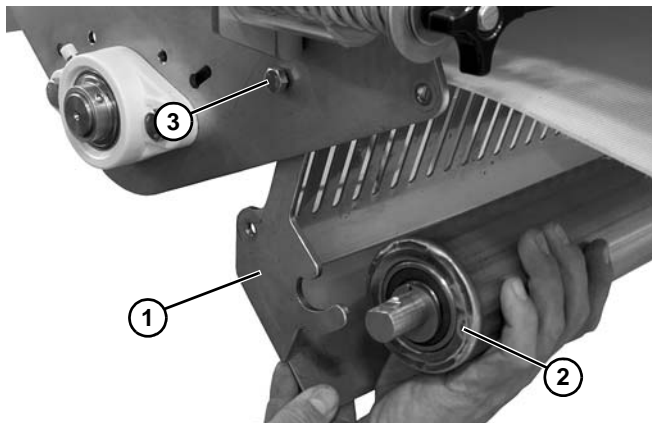

Figure 52
10. Swing idler guard assembly (**Figure 52, item 1**) down. Remove the idler pulley (**Figure 52, item 2**).
11. Remove bolt (**Figure 52, item 3**) from each side of the center drive. Remove the idler guard assembly (**Figure 52, item 1**).